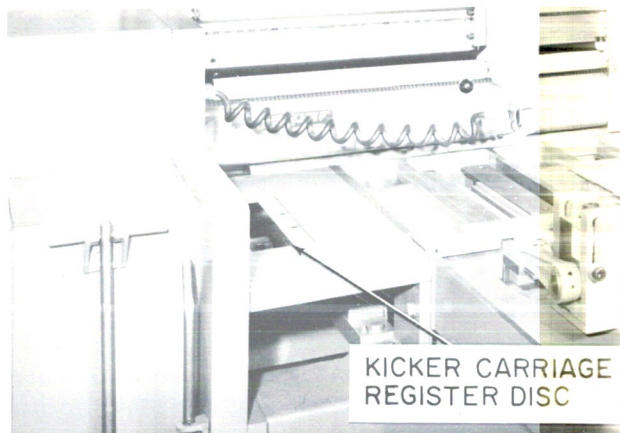

FIGURE 3-20. KICKER CARRIAGE REGISTER DISC
- Step 1) Align the kicker carriage register disc (Figure 3-20) and feed table zero marks (Figure 2-3) on the forward stroke of the kicker. If the zero marks do not align simultaneously, bushing wear is evident and the bushing must be replaced.